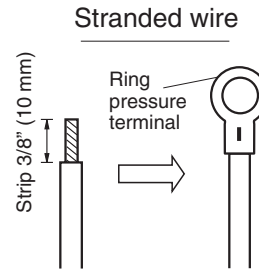

Fig. 4-3
- (1) Cut the wire end with cutting pliers, then strip the insulation to expose the stranded wiring approx. 3/8 inch (10 mm) and tightly twist the wire ends. (Fig. 4-3)
- (2) Using a Phillips head screwdriver, remove the terminal screw(s) on the terminal board.
- (3) Using a ring connector fastener or pliers, securely clamp each stripped wire end with a ring pressure terminal.